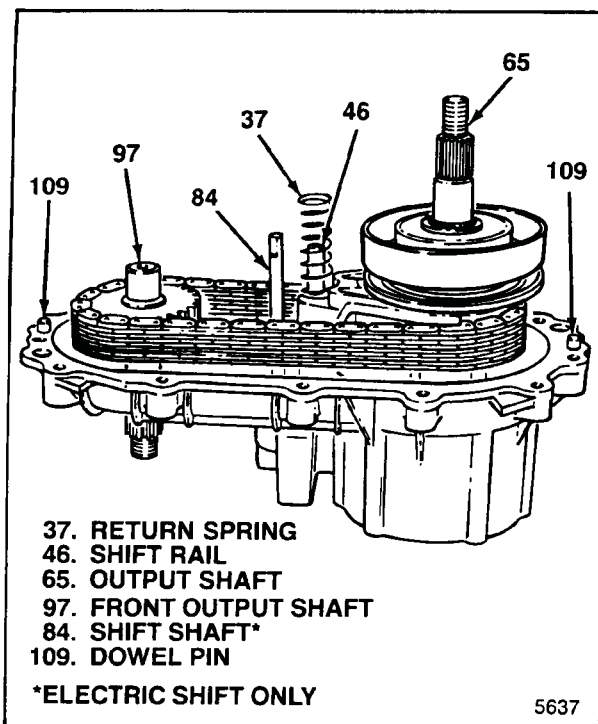

Figure 5-22. Parts To Be Aligned With Cover
d. Install cover assembly (28) on transfer case (110). All of the following alignment conditions must be met for the cover assembly to seat on transfer case properly (see figure 5-22):
1. Cover holes with transfer case dowel pins (109).
3. Blind hole in cover with rail shaft (46) (make sure spring is not cocked).
4. On electric shift units, cover bore with shift shaft (84).
- e. Install twelve bolts (27) and torque to 18-28 lb-ft (24-38 Nm).
- f. Install snap ring (26) in groove in output shaft (65).
- g. Install speedo gear (25) over spline of output shaft (65) with open end of notch for ball (24) facing out and aligned with ball detent in output shaft. Push gear in as far as it will go, install ball (24) in detent in output shaft (65) and pull gear back out as far as it will go. Snap speedo gear retainer onto output shaft to retain speedo gear.